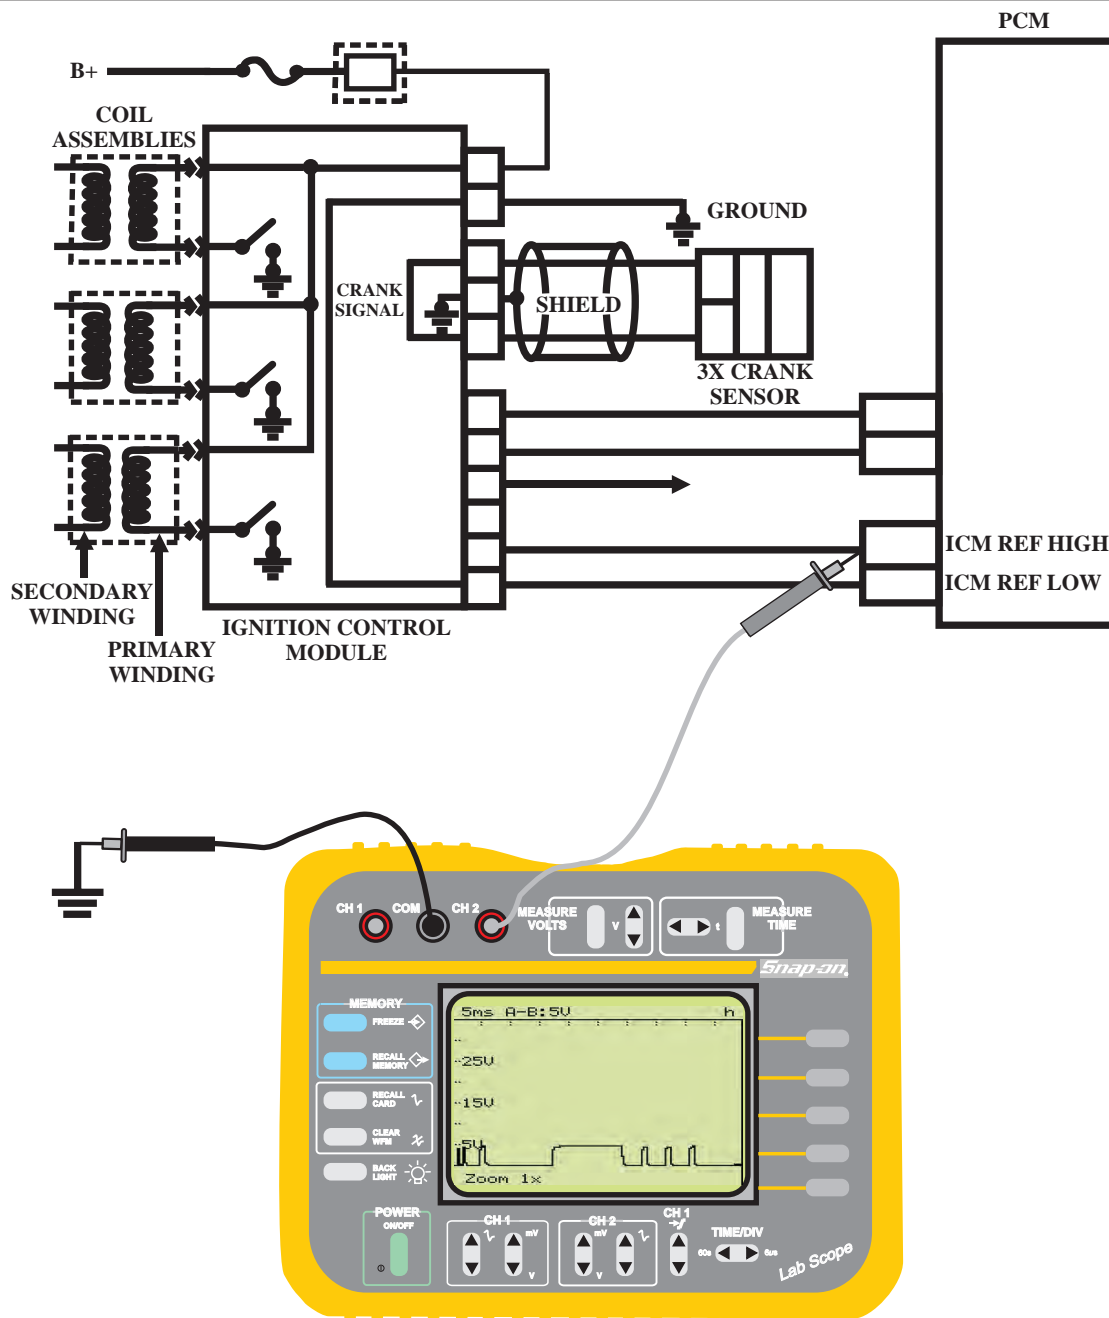

Figure 35
• With an oscilloscope or graphing voltmeter connected to ground and the ICM Reference High terminal at the computer, the waveform in figure 35 should be seen.